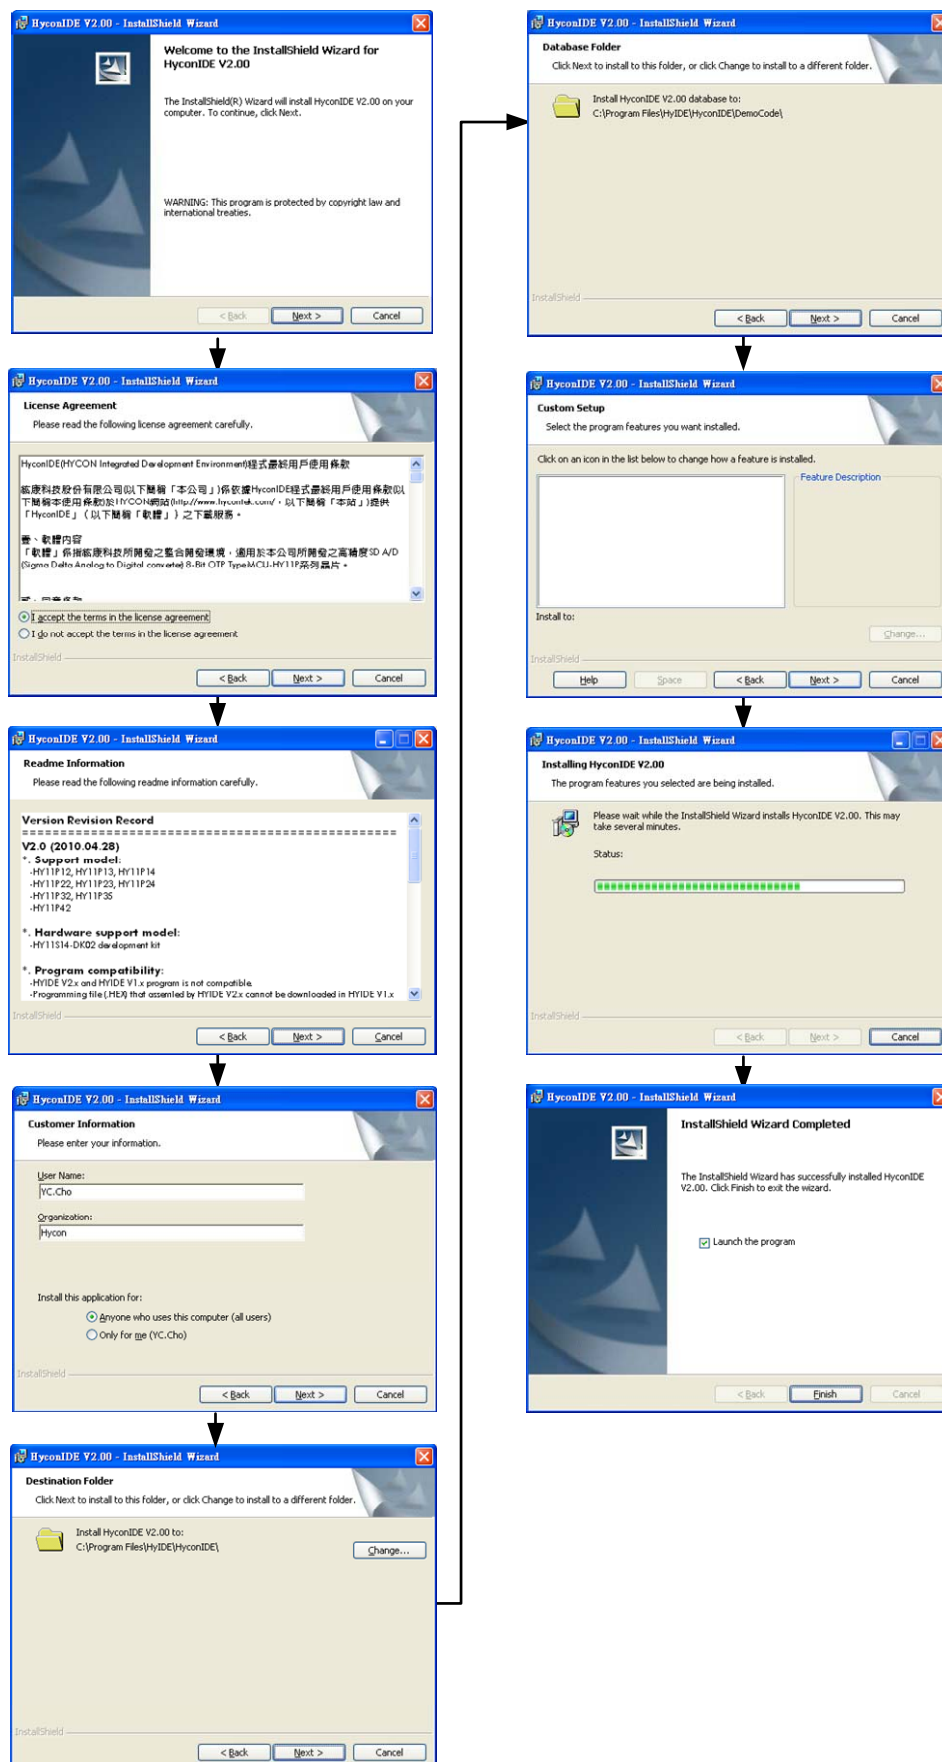

Figure 1
- Following the dialog step by step to continue setup procedures. As shown in Figure 1.